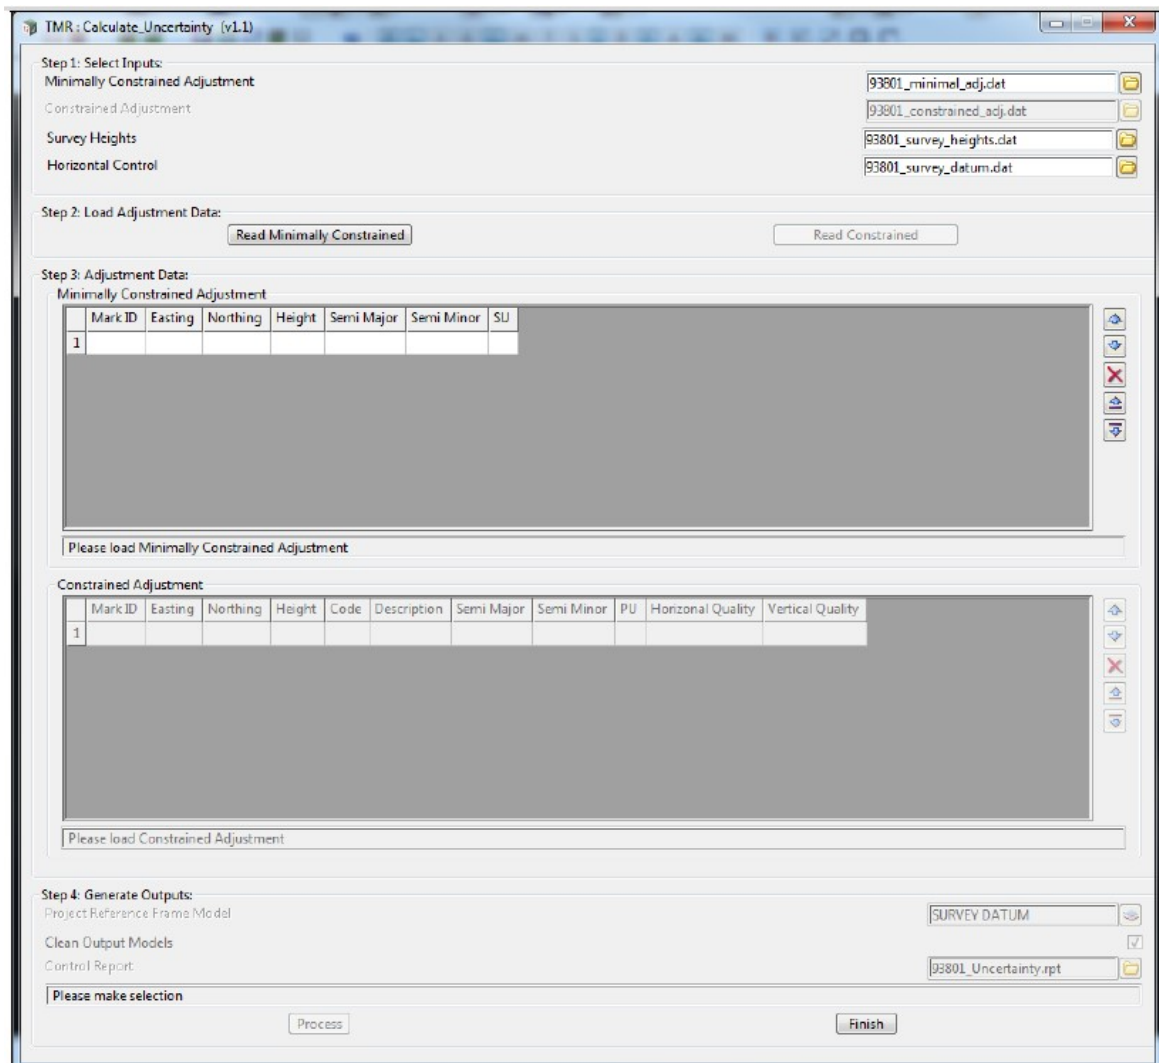

Figure 4: TMR Calculate Uncertainty Macro
- TMR Calculate Uncertainty macro that will calculate the Survey & Positional Uncertainty for marks that have been adjusted in TBC and import them into 12d Model. (Refer to Figure 4: Calculate Uncertainty Macro)